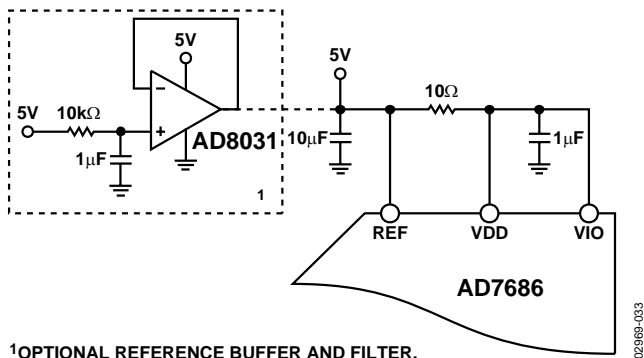

Figure 32. Example of Application Circuit
For simplified applications, the AD7686, with its low operating current, can be supplied directly using the reference circuit shown in Figure 32. The reference line can be driven by either:
- A reference buffer, such as the AD8031, which can also filter the system power supply, as shown in Figure 32.